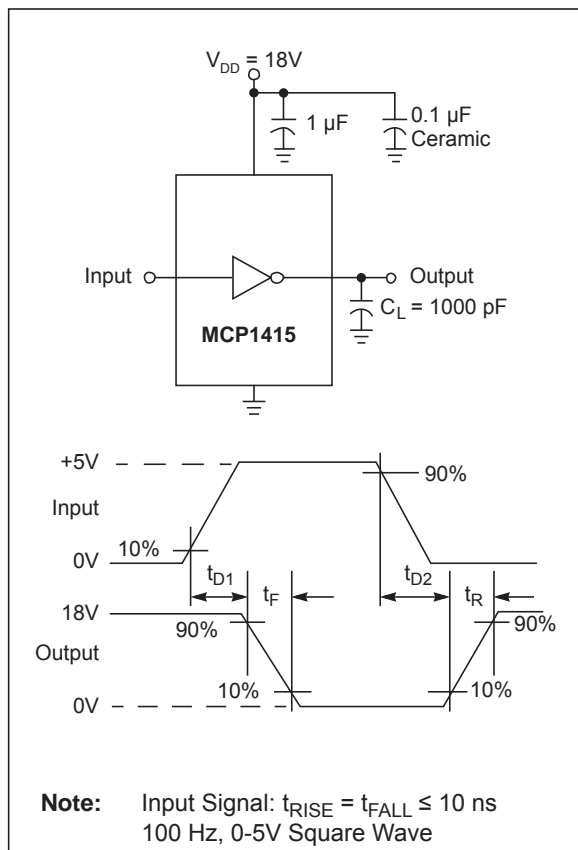
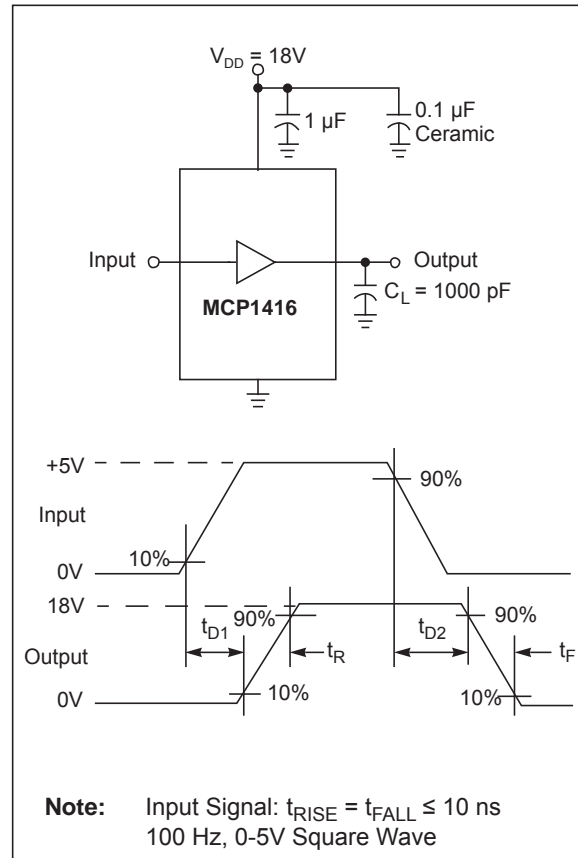

FIGURE 4-1: Inverting Driver Timing Waveform.
FIGURE 4-2: Non-Inverting Driver Timing Waveform.
The ability of a MOSFET driver to transition from a fully-off state to a fully-on state is characterized by the driver's rise time (t_R), fall time (t_F) and propagation delays (t_{D1} and t_{D2}). Figure 4-1 and Figure 4-2 show the test circuit and timing waveform used to verify the MCP1415/16 timing.
5. Updated Figure 4-1 and Figure 4-2.